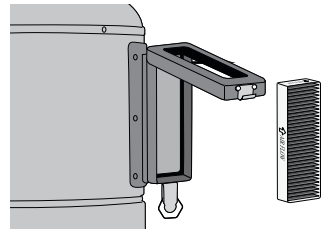

figure 11
2. Remove the used filter, and discard (**figure 11**).